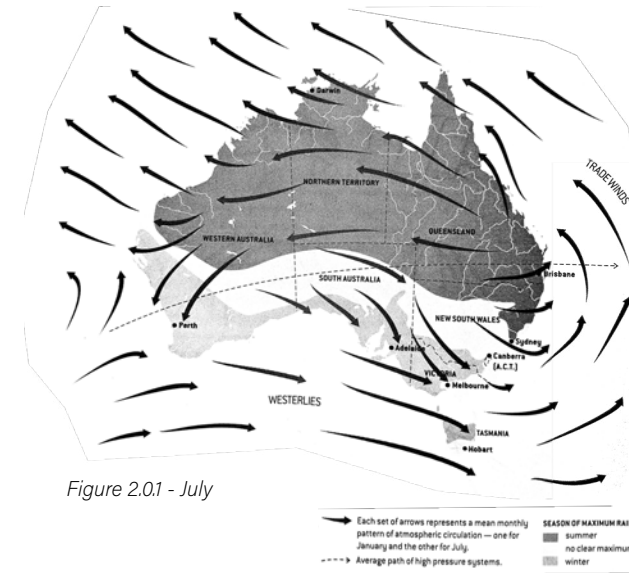

Figure 2.0.1 - July
*In summer (Figure 2.0.1 Nov-April), dry winds and stable weather conditions prevail in the south, while in the hot north, the southward shift of the equatorial trough produces the monsoonal north-westerlies, with prolonged cloud cover and rainfall as well as tropical cyclones. In summer, the rainfall pattern is reversed: the north experiences maximum rainfall and the southern part is mostly dry.2*